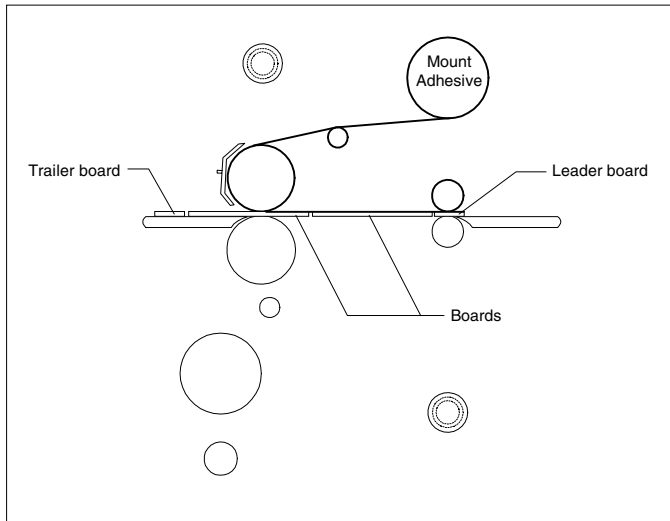

Fig. 34
TIPS FOR PRE COATING BOARDS (Figure 34)
1. Load the laminator as illustrated in Figure 34. Remove chill idler.